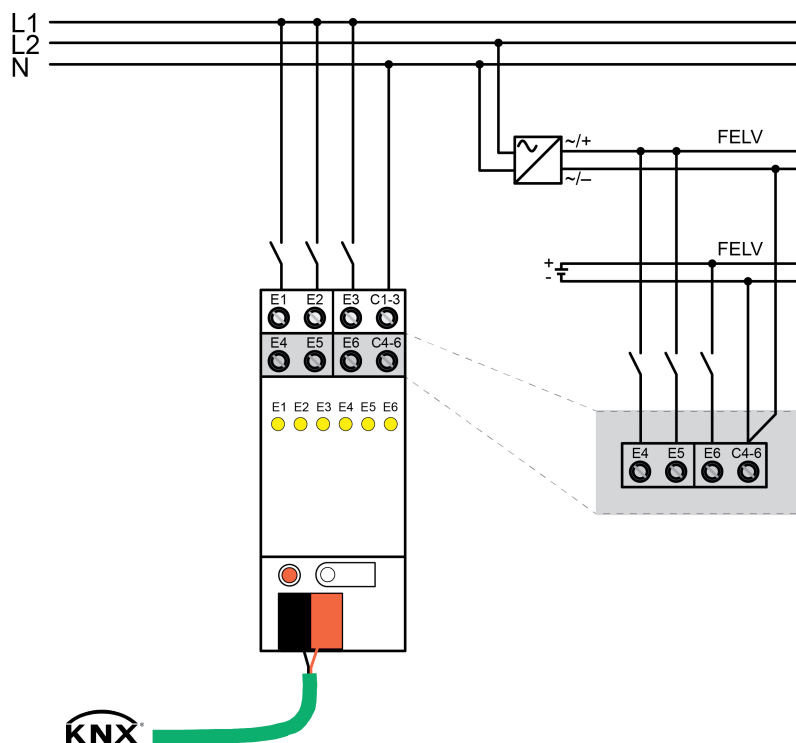

Figure 4: Joint connection of mains and low-voltage circuits
- Connect circuits as shown in the connection example (figure 4)Connecting .